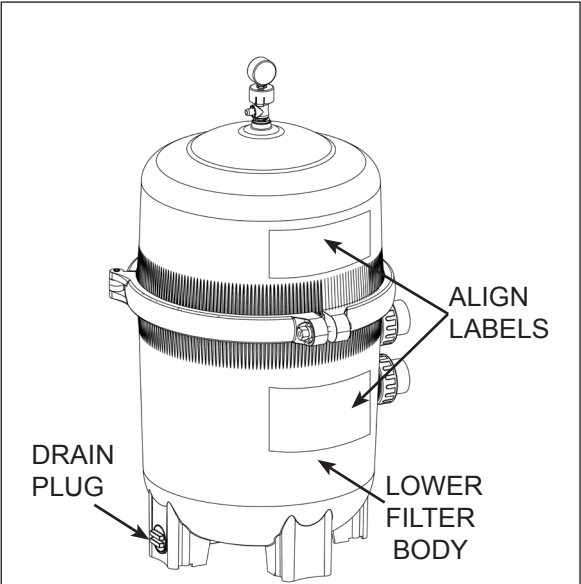

Figure 7
1. Place the metal reinforced seal on lower filter body. (Fig 4) Place upper filter body on metal reinforced seal and lower filter body in a position which allows all operation and safety labels to be clearly visible and the upper filter body to be centered on the lower filter body. Press down firmly and evenly on the upper filter body to seat the seal. (Fig 7)
2. Replace the filter clamp around the upper and lower filter bodies. Hold the clamp ends to position the clamp on the filter bodies with the clamp ends adjacent to the safety and operation labels on the filter bodies. (Fig 7)